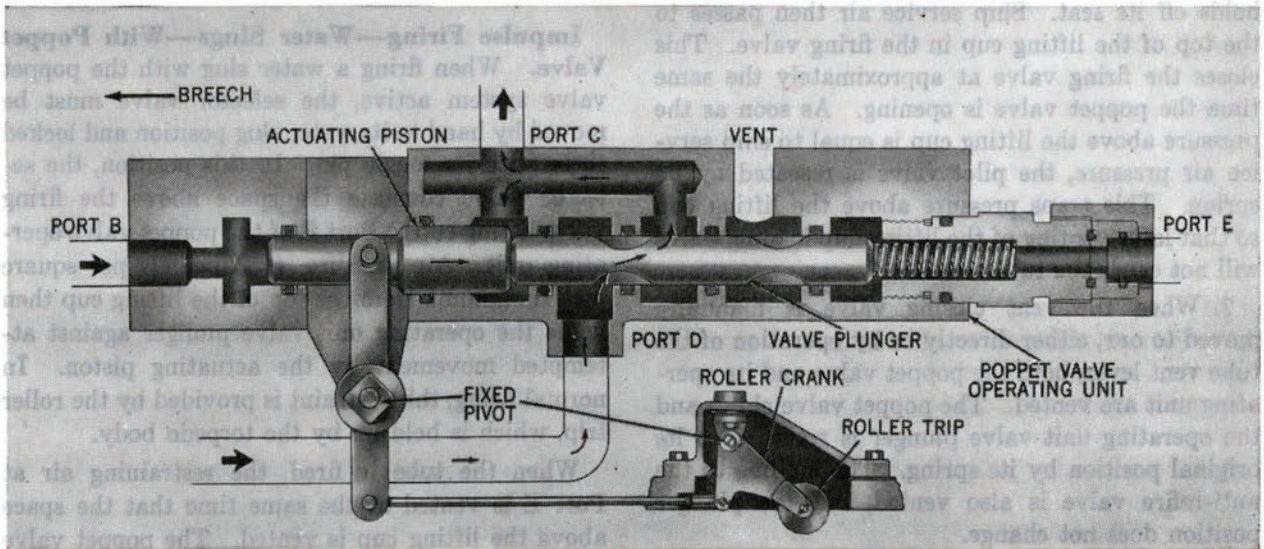

Figure 167—Firing Mechanism Schematic Diagram, Poppet Valve Operating Unit, and Roller Trip Unit—Roller Trip Released.
2. As the torpedo moves out of the tube, the roller of the roller trip is free to ride down the tapered afterbody of the torpedo. This allows movement of the actuating piston in the poppet valve operating unit. Ship service air from the vent closing valve through Port B forces the piston toward the tube muzzle, figure 167.